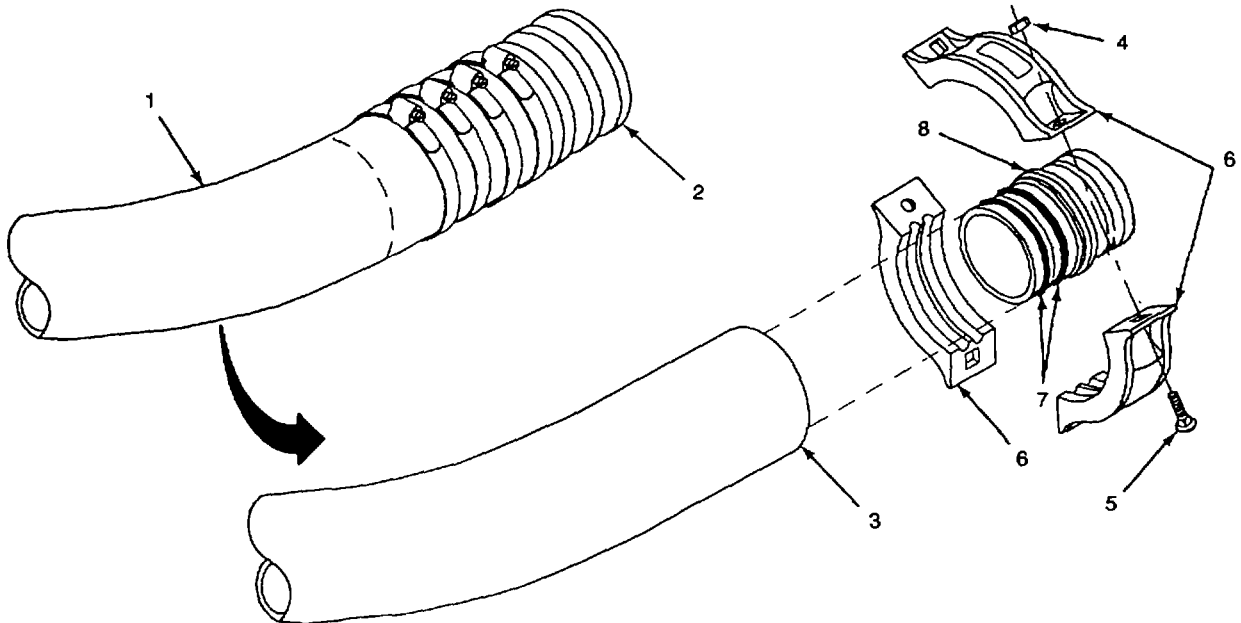

Figure 3-4. Grooved End Hose Adapter Assembly
- 5 Tighten nuts (1) and bolts (2) alternately and evenly. Do not overtighten.
- (2) Install grooved end adapter assembly onto end of collapsible hose assembly as follows (Figure 3-4):